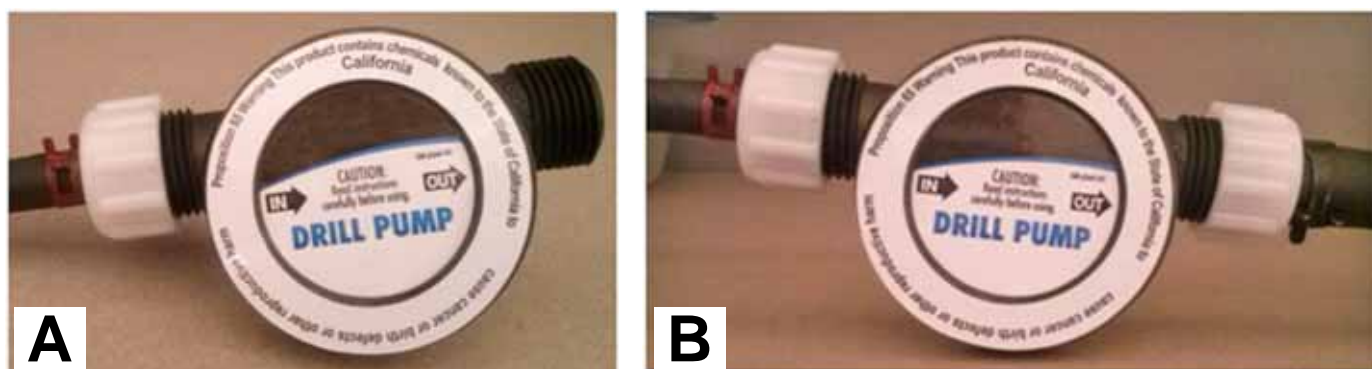

Figure 4-4. Pump Assembly
1. Install the ¼ in. Hose Assembly onto the inlet side of the Drill Pump. Twist the fitting clockwise until it is snug. Do not over-tighten. See A of Figure 4-4.
2. Install the ½ in. Hose Assembly onto the outlet side of the Drill Pump. Twist the fitting clockwise until it is snug. Do not over-tighten. See B of Figure 4-4.